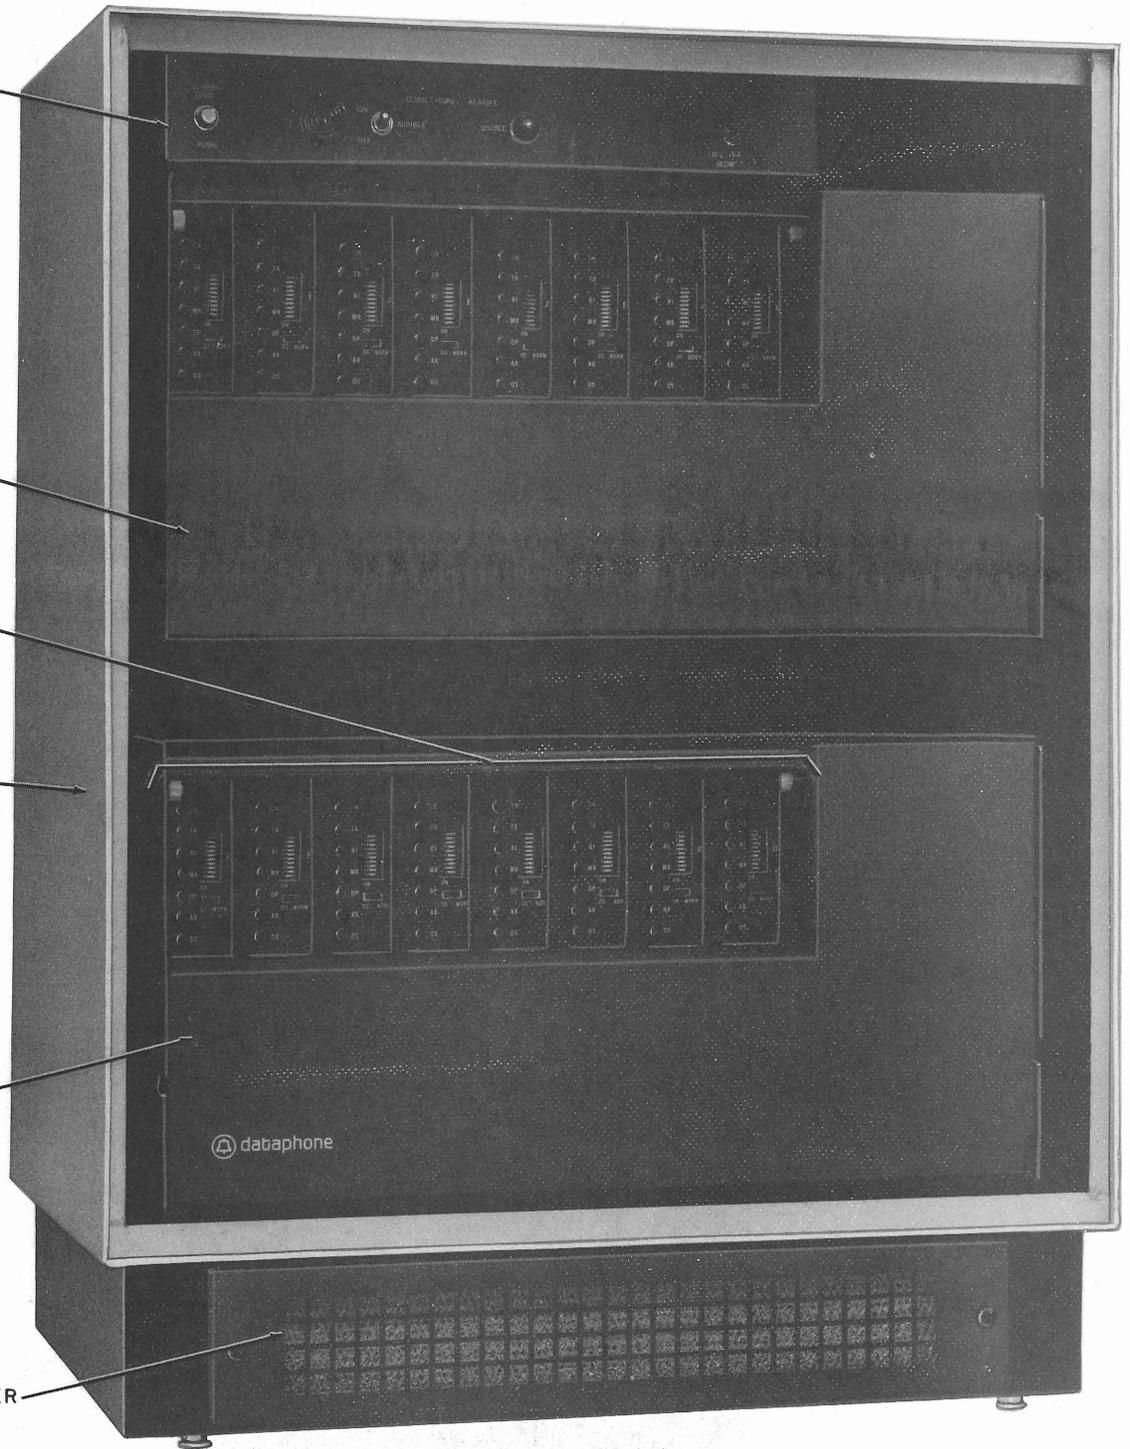

Fig. 1—Front View of 407C Multiple Data Station With Plastic Front Cover Removed
1.04 A 407C multiple data station, shown in Fig. 1, consists of the following units:
1.08 The 51A-type data unit, together with the 47A-type data unit, (Fig. 1) provided with the 57A-type data mounting, enable local or remote testing of any DS 407C in the cabinet.